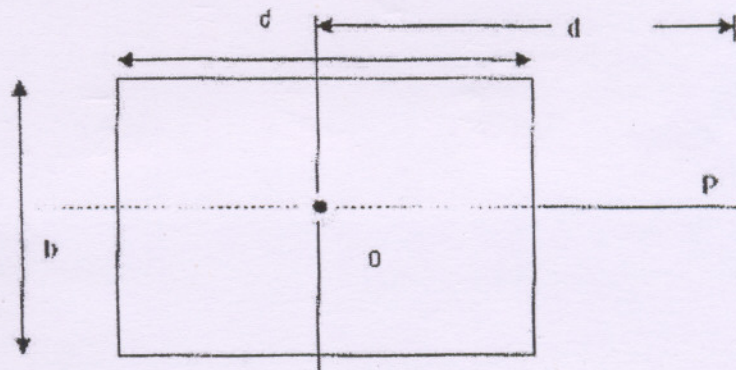

Fig. 5
- (b) Fig. 5 shows a plan of short column having dimensions  $b \times d$  mm. An external vertical force 'P' N is applied at a distance of 'd' mm from Y-Y axis. There is an additional vertical load of 'Q' N acting on the column. Calculate the load 'Q' so that the maximum stress developed in the column is zero. [7]